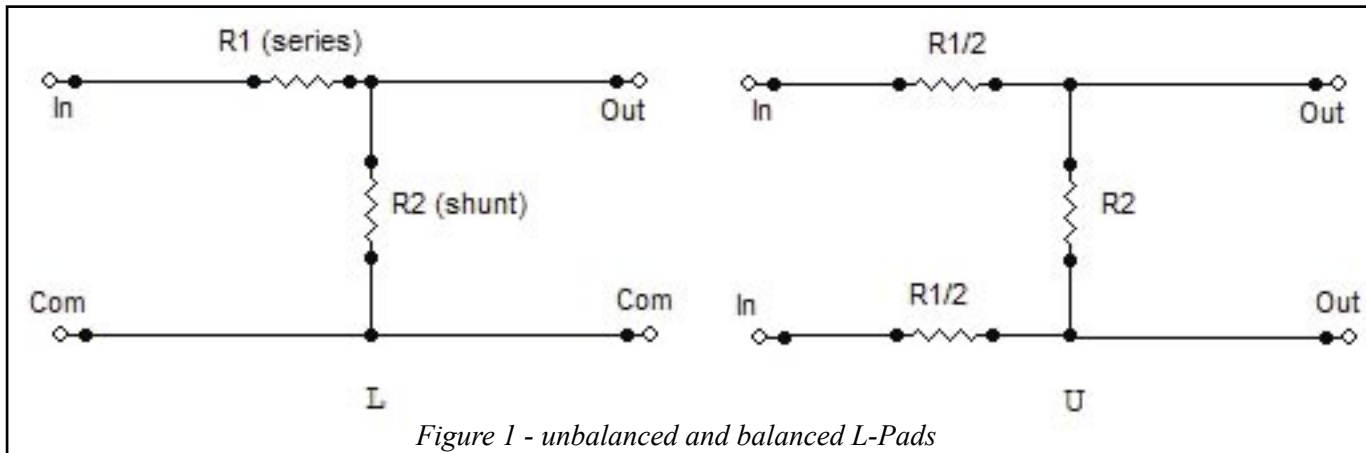

Figure 1 - unbalanced and balanced L-Pads
**L-pad** is a \$2 name for a voltage divider (Fig. 1). L-pads look like an upside-down letter L. Their input and output impedances are different. The L-pad is asymmetrical and its inputs and outputs are not interchangeable. A U-pad is a balanced L-pad.